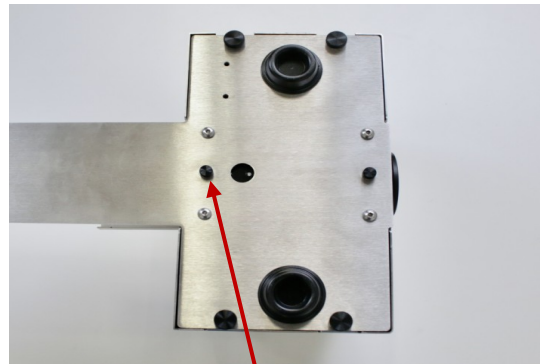

Figure 3.1.2 Bushing (outlet) set screw
- Flip the cutter upside down, loosen the outlet bushing set screw and remove bushing from cutter. **Figure 3.1.2**
- While holding bushings against blade, tighten inlet and outlet set screws. **Figure 3.1.2&3.1.4**